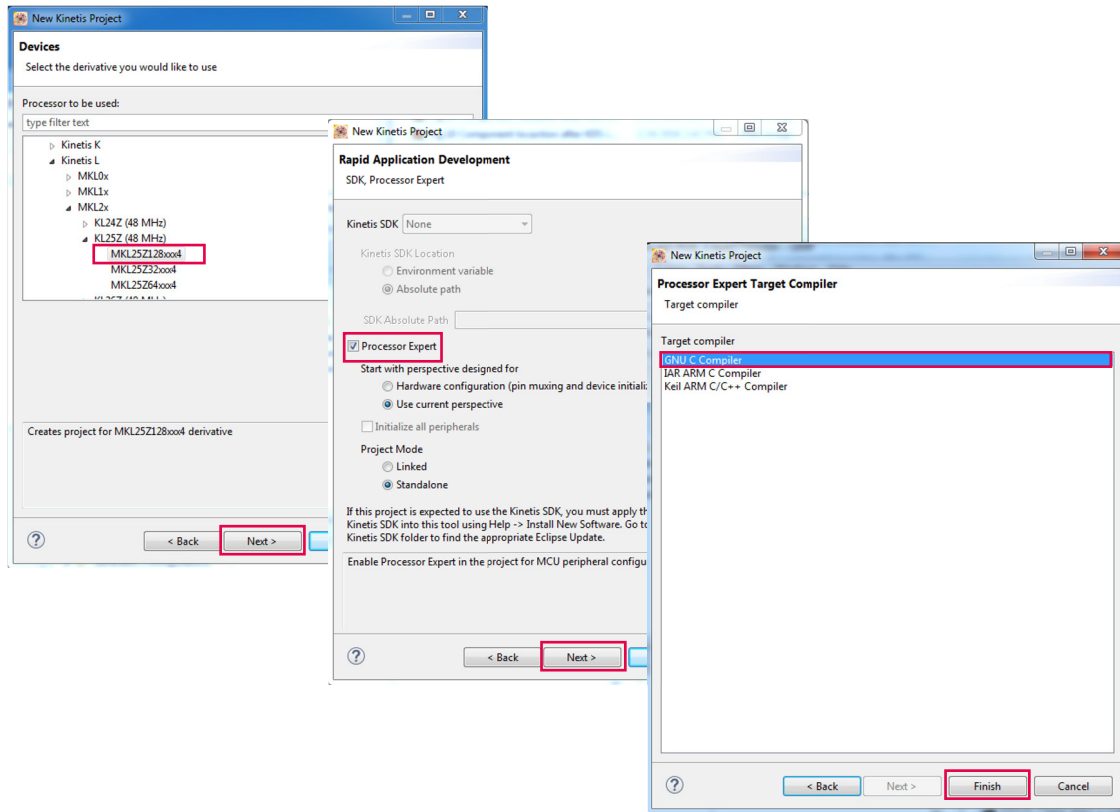

Figure 14. New project creation (b)
3. In the **Rapid Application Development** dialog box, select the **Processor Expert** option. Then click **Finish** (Figure 14).
4. In the **Processor Expert Target Compiler** dialog box, select a compiler (GNU C Compiler in Figure 14) and click **Finish**.